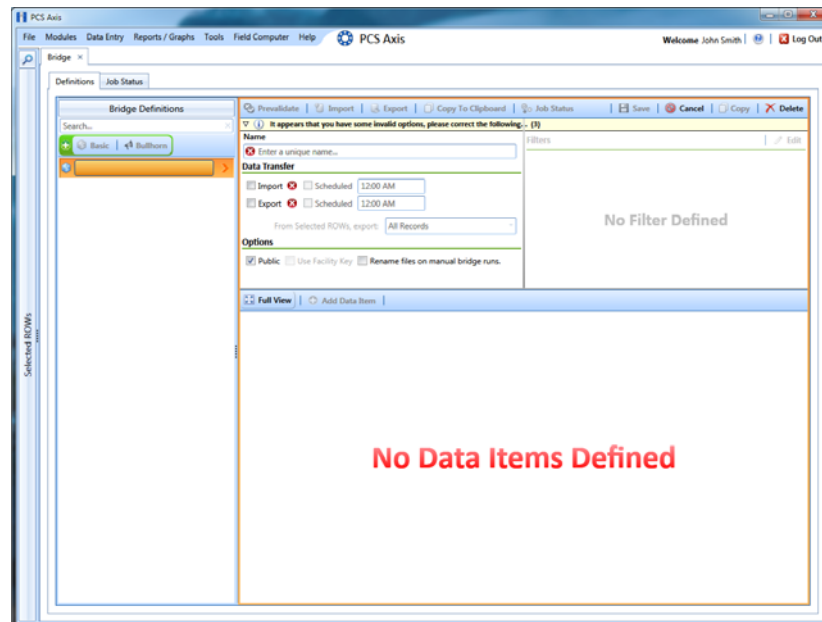

Figure 9-29. Basic Bridge Definition
- 3 Click  **Basic** to open the definition panel (Figure 9-29).